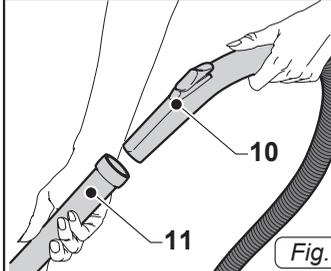

Fig. 8
- Insert the sleeve (8 Fig.8) of the flexible pipe supplied into the air suction hole (9 Fig.8).